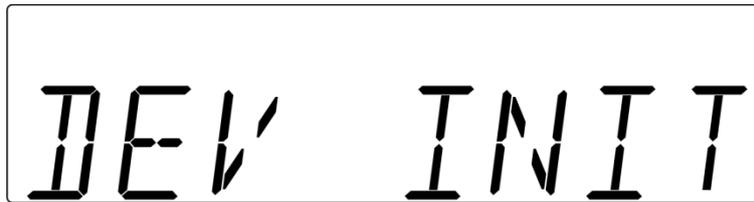

Fig. 06
- Press the **Rec button** (21, 33) button shortly. Now the display will look as shown in figure 06.